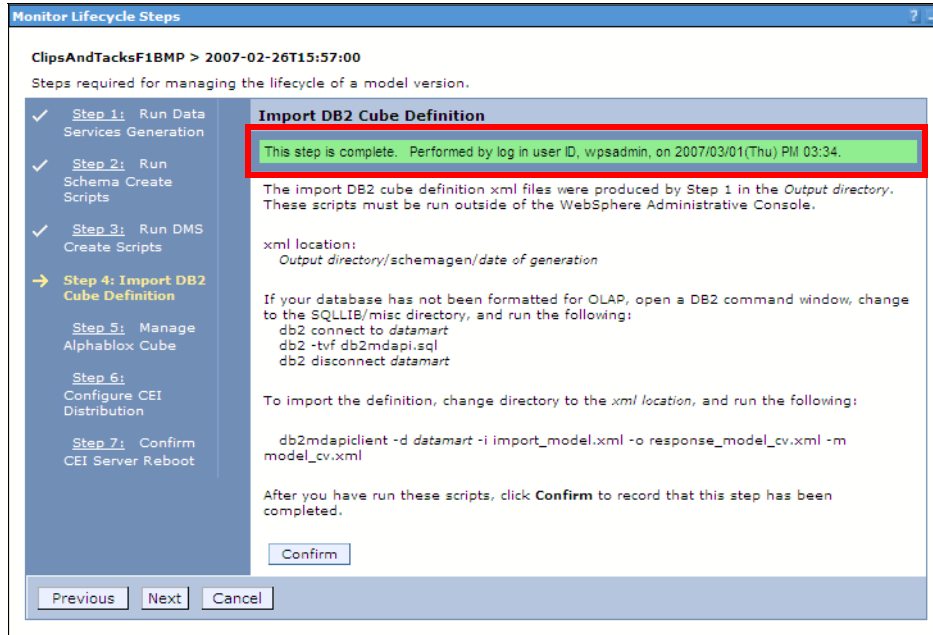

Figure 14-14 Monitor life cycle: Step 4 completed
- ▶ Verify that the messages indicating successful execution of step 4 are displayed (Figure 14-14).